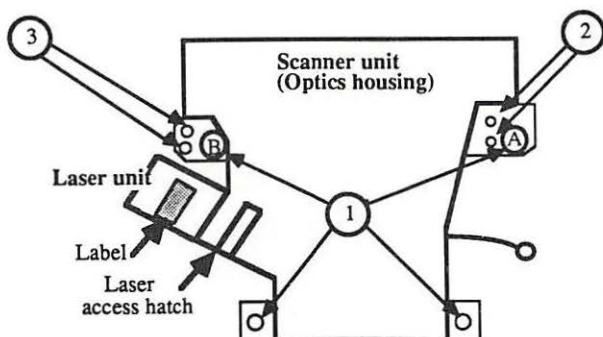

FIGURE 3-7
5. To make the scanner unit movable, loosen the four large mounting screws (Figure 3-7, #1) and the two sealed screws closest to the laser (Figure 3-7, #3).
6. Rotate the scanner unit around screw A (see Figure 3-7): rotating the unit clockwise makes the horizontal line incline counterclockwise, and vice versa.
8. Tighten the two sealed screws you had loosened earlier (Figure 3-7, #3) and loosen the two sealed screws on the other side of the scanner unit (Figure 3-7, #2).
9. Rotate the scanner unit around screw B (see Figure 3-7): rotating the unit clockwise makes the horizontal line incline counterclockwise, and vice versa.